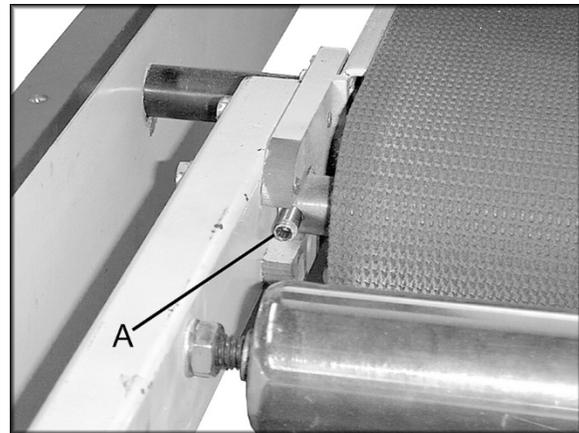

Figure 4
Tracking and tension for the feed belt is controlled by two socket set screws on each side of the belt (A) as shown in Figure 4.